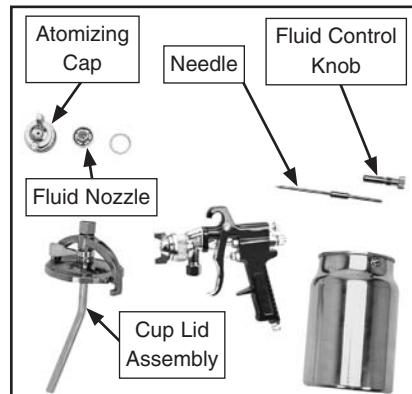

Figure 13. Spray gun disassembled for cleaning.
3. Remove the cup and cup lid, then disassemble the gun by unscrewing the fluid control knob and removing the spring and needle (see **Figure 13**).
4. Unscrew the atomizing cap with your fingers, then remove the fluid nozzle with a wrench. The fully disassembled gun should look like **Figure 13**.